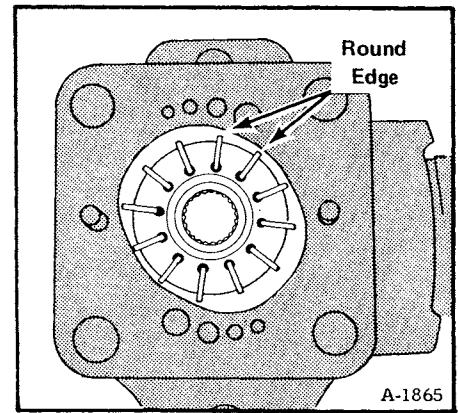

Fig. 2-17 Vane Location
- (1) Put hydraulic fluid on all parts during assembly to hold O-rings in place.
- (2) Install the new O-rings in the body and cover.
- (3) Install the ring location pins in the body and put the ring over the pins.
- (4) Install the rotor in the ring. Put the vanes in the rotor slots so that the round edge of each vane is toward the cam ring (Fig. 2-17).
- (5) Put the pressure plate on the location pins and against the ring. Install the spring on the pressure plate.
- (6) Carefully install the cover with the outlet in the correct position. Tighten the cover bolts.